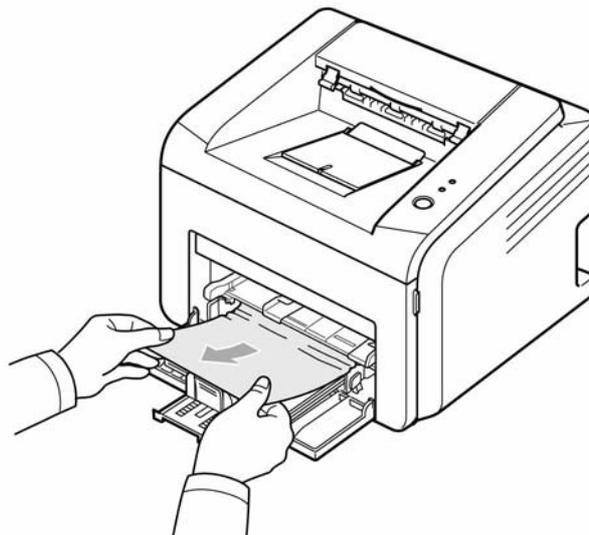

Figure 4
1. Remove the jammed paper by gently pulling it straight out. Make sure that all of the paper is properly aligned in the standard tray, Figure 4.